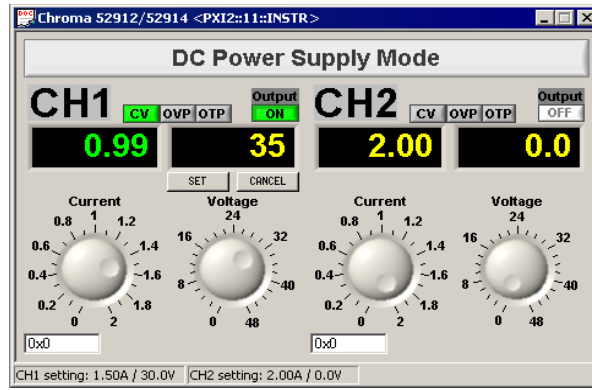

Figure 4-9 Channel 1 Output condition II
3. While outputting, SFP will try its best to remain in the constant voltage (CV) state. However, when the load condition surpasses the current limit, SFP will change into the constant current (CC) state. In this case, the voltage output will be reduced, accordingly.
5. You can manually enter a new value for voltage or current during measurement. After the value is entered, click on  to output the value, or click on  to return to the original readings. (See Figure 4-9)